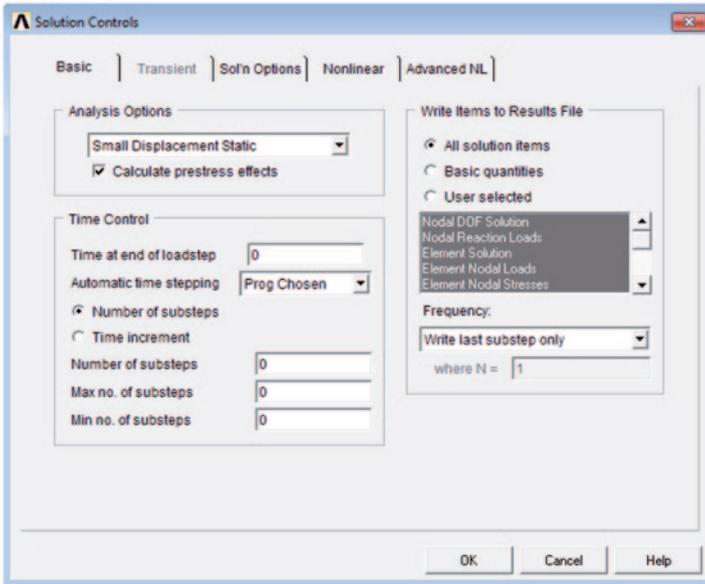

Fig. 8.51 *Solution Controls* dialog box (*Basic* tab shown)
- A dialog box appears; place a checkmark in the box next to **Calculate pre-stress effects**; click on **OK** (Fig. 8.51).